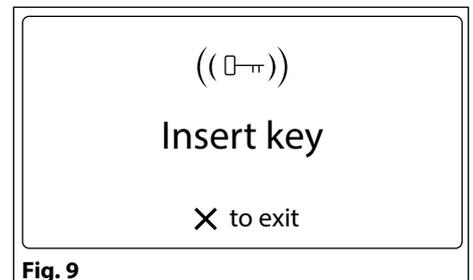

Fig. 9
- press "3" to add a key: the display will show "**INSERT KEY**" as shown in **Fig. 9**